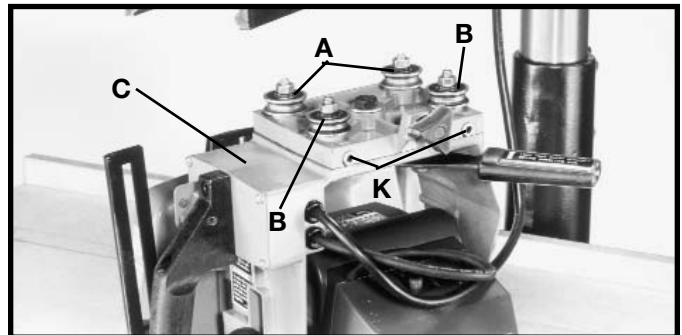
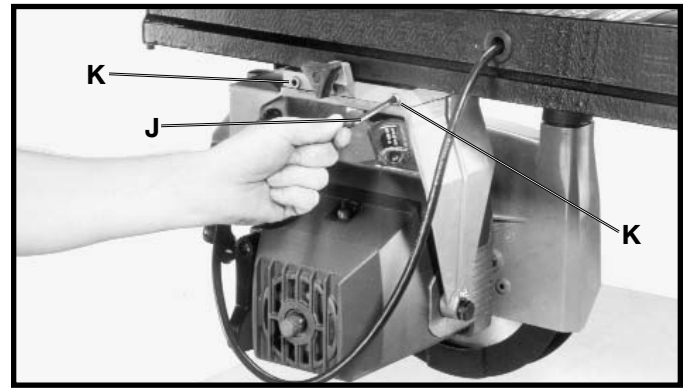

Fig. 61
Fig. 64
The cutting-head (C) Fig. 61, is suspended from four pre-loaded, lubricated, shielded ball bearings, two of which are on fixed shafts at (A), and two on adjustable shafts at (B). **NOTE: CUTTING-HEAD (C) FIG. 61, IS REMOVED FROM TRACK ARM FOR ILLUSTRATION PURPOSES ONLY. DO NOT REMOVE CUTTING-HEAD FROM TRACK ARM!**
4. Using a 1/2" socket, extension, and ratchet (H) Fig. 63, through hole (G) in track arm, slightly loosen hex nut on adjustable shaft (B) Fig. 61, approximately 1/8 turn. Repeat procedure for other bearing.
5. Using a 3/16" Allen wrench (J) Fig. 64, turn adjustment screws (K) Figs. 61 and 64 to remove all "play." **NOTE: DO NOT OVERTIGHTEN ADJUSTMENT SCREWS (K). THIS CAN DAMAGE BEARINGS.**